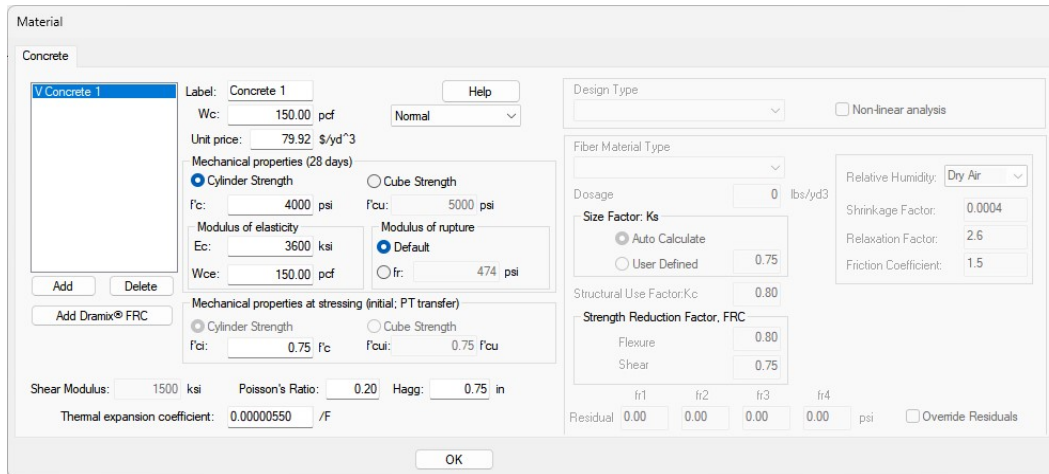

Figure 2.1-1 – Concrete Material Properties
- Go to *Criteria* → *Material Properties* and click on the **Concrete**  icon. This will open the *Material* window shown in **Figure 2.1-1**.